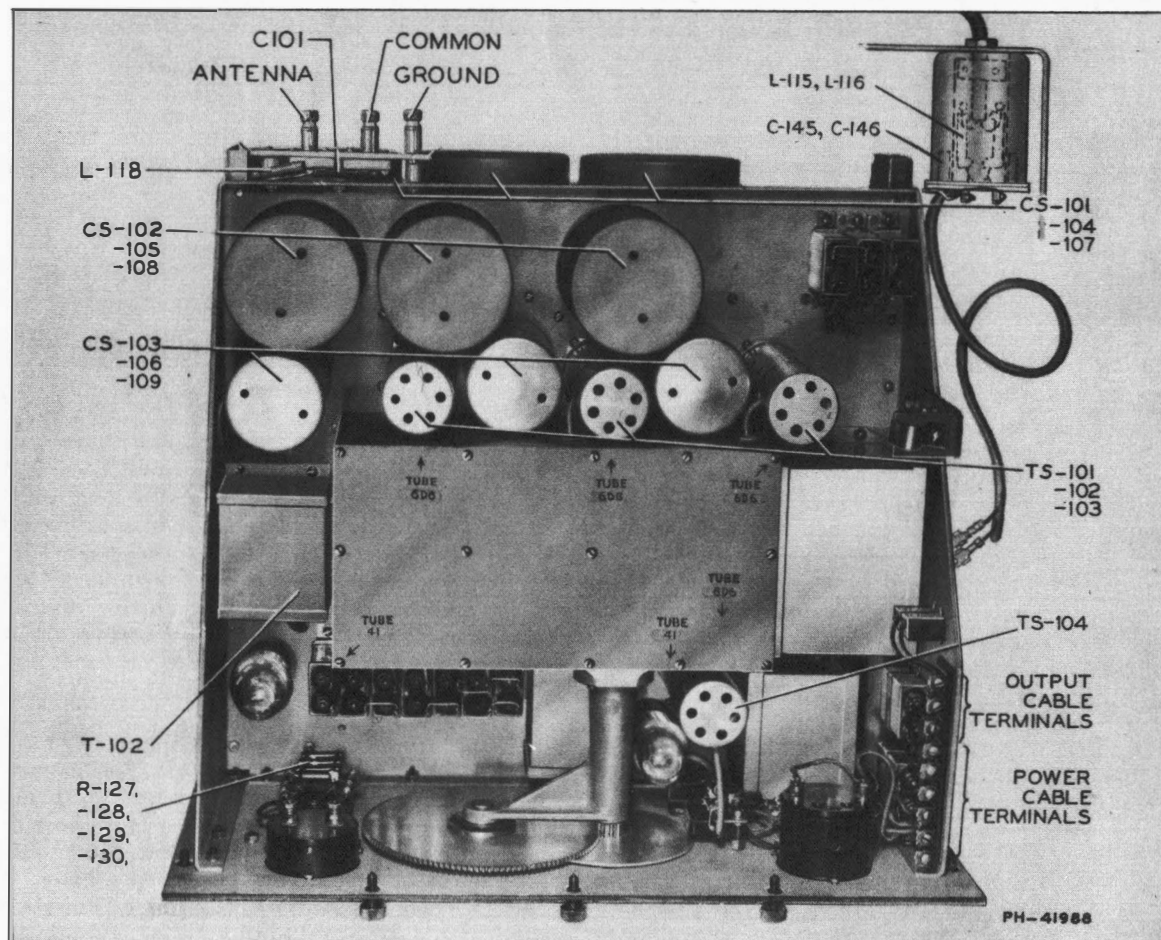

Figure 2—Receiver Unit CRV-46156 (Top View of Chassis)
7.2-1 The tube locations are shown in Figures 2 and 16.
8.2-1 As indicated in Figure 15, the receiver unit is designed for table mounting. The cabinet may be permanently fastened to the table and the chassis is removable for access to tubes, for servicing, and for cable connections. All components are mounted on the chassis or panel forming a single assembly. (See Figures 2, 3 and 6.) Audio and AVC components are mounted directly behind the panel with filter and audio tuning units at the right, the first audio and output tubes in the center, and the AVC circuit at the left. Audio wiring, resistors, etc., are located beneath the chassis. The tuning condenser assembly is located just back of the audio components. The top plate on the condenser assembly is removable for inspection. At the rear of the chassis are located the r-f and detector tubes and the r-f coils, which are protected and shielded by screw cans. The power terminals are located at the right of the chassis and the antenna and ground terminals at the left. The band switch, r-f components and wiring are located beneath the chassis in a fabricated shield box. The large cover plate on the bottom of the receiver is removable for inspection and access to these parts.
- 9.7-3 An output cable filter assembly consisting of series coils L115 and L116 and by-pass capacitors C145 and C146 prevents signal pick-up on the phone leads and output cable connecting the control box to the receiver. It is mounted in a shielding can which prevents any direct radiation when assembled inside the receiver cabinet. This filter unit is mounted in the cabinet and is illustrated in Figure 2.